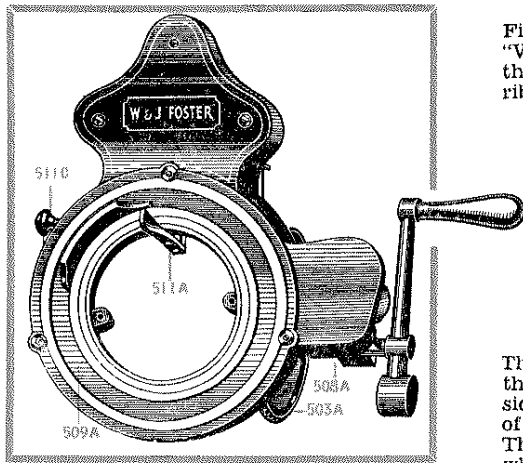
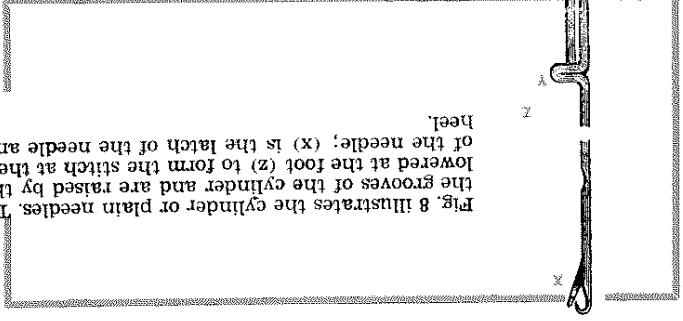

Fig. 3
Fig. 8
Fig. 3 shows the base of the "V.A." knitting machine with the gear ring (509A) and ribber post (511A) in position.
Fig. 3 shows the base of the "V.A." knitting machine with the gear ring (509A) and the rubber post (511A) in position.
Fig. 8 illustrates the cylinder or plain needles. These fit into the grooves of the cylinder and are raised by the cams and lowered at the foot (Z) to form the latch at the top or hook of the needle; (X) is the latch of the needle and (Y) is the heel.
In knitting plain work the handle (504A) is moved round towards the back from the top; this operates the driving wheel (503A) which in turn moves round the gear-ring (509A), and coming in contact with the lug (X) of the cam shell (512A) drives the cam shell round. For the direction in which to turn the handle see illustration Fig. 3. Here the handle is at the top and is to be pressed down towards the back. This is called the Forward movement; the reverse way is called the Backward movement. It will be well to make a few turns of the handle with the needles in the machine and the belt on, but without work upon the needles to see the action. It will be seen that the needle first rises somewhat at cam B (Fig. 5); this is so that the last stitch knitted will pass below the latch. The hook of the needle is now depressed by cam A (Fig. 5), and at the same time receives the new wool, and as the needle passes below the top of the cylinder, the latch (X, Fig. 8) is closed by the old stitch, which passes over to the inside of the cylinder. To learn which cams give the different movements to the needles, read the paragraph on the cam shell (page 10) while making the few turns of the handle.
2.—For the direction in which to turn the handle see Fig. 3; here the handle is at the top and is to be pressed down towards the back. This direction is called the **forward** movement; the reverse is the **backward** movement.